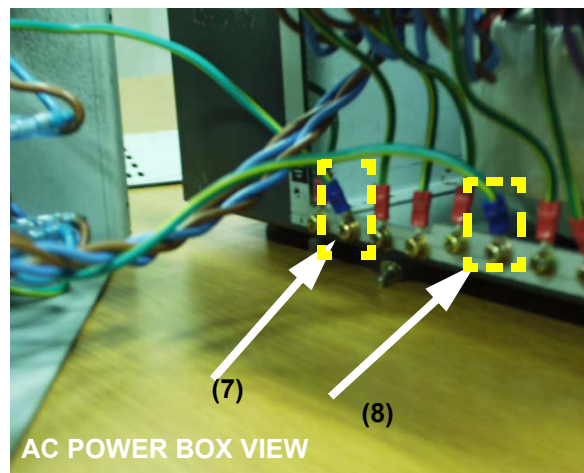

Figure 8-136 Unscrew two ground screws
- 4.) Unscrew two (2) ground screws (7-8). Refer to Figure 8-136 on page 8-84 .